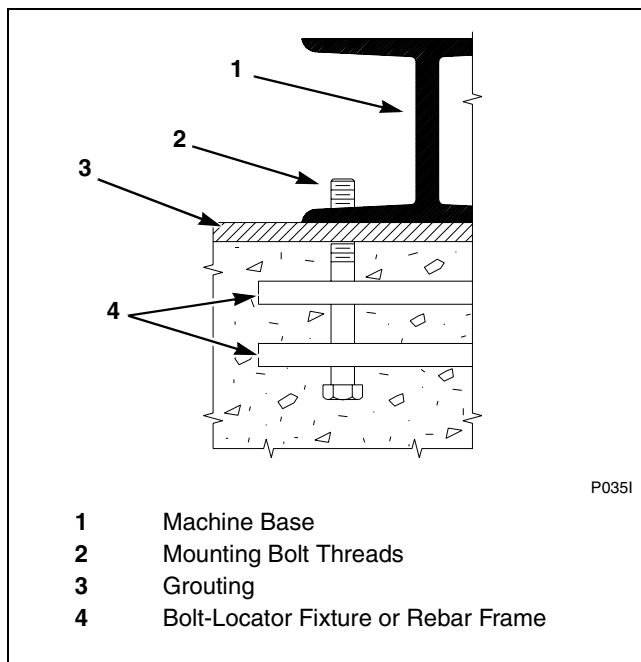

Figure 10
**NOTE:** For 80 and 125 pound models, a bolt-locator fixture or rebar frame is available as an option. This is designed to be embedded in concrete. Refer to *Figure 10*.